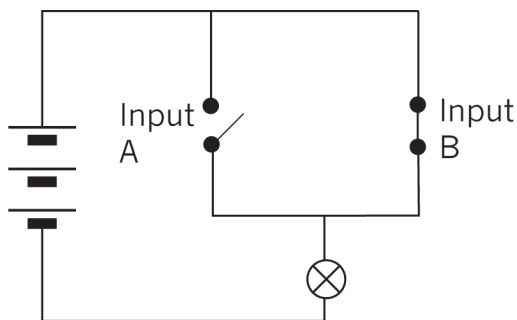

Figure 12: Circuit with two switches in parallel
1. Draw up a truth table for the circuit in Figure 12.